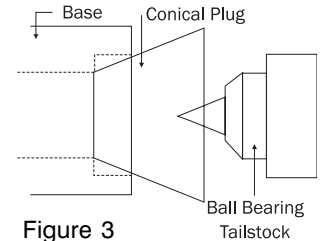

Figure 3
6. Place the tenon of the wooden body into the recess of the cap and with the help of a conical plug hold the entire assembly in place with the ball bearing tailstock (Fig. 3). Complete the turning, matching the cap and body. Test the fit of the cap and if necessary sand the recess in the cap so that it fit loosely and rotates without binding on the tenon. Part off the finished cap.
2. Place center bore of the wooden body onto the cap tenon and with the help of a conical plug (Fig. 3) hold the entire assembly in place with the ball bearing tailstock. Complete the turning, matching the cap and body. Test the fit of the cap and if necessary sand the cap tenon so that it fit loosely and rotates without binding in the wooden body. Part off the finished cap.